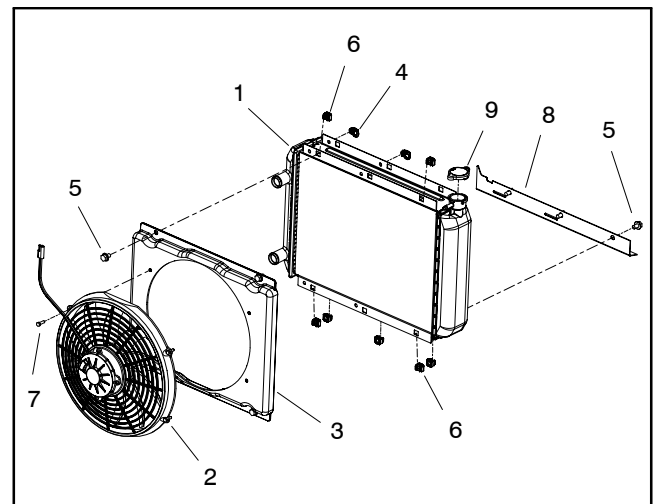

Figure 10
8. Disconnect reservoir hose (item 6) from the radiator filler neck.
- A. Remove two (2) flange head screws and flat washers that secure the top of the radiator assembly to the mount.
- B. Remove two (2) flange head screws and flange nuts that secure the bottom of the radiator assembly to the mount.
13. If necessary, remove components from radiator using Figure 10 as a guide.
1. If radiator assembly was disassembled, install components to radiator using Figure 10 as a guide. Make sure that clearance exists between shroud and fan at all points.
4. Connect reservoir hose (item 6) to the radiator filler neck. Secure hose with hose clamp.